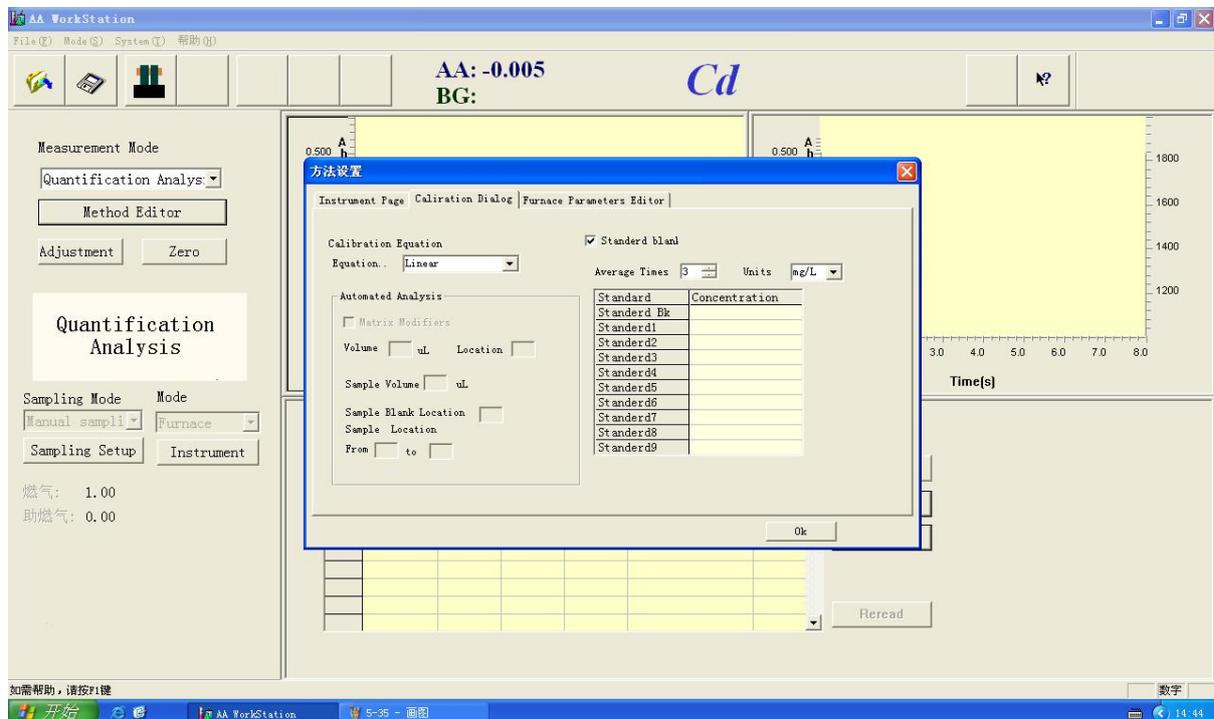

Figure 5-53
4. Press **【OK】**, open the "Calibration Dialog" window. figure 5-53